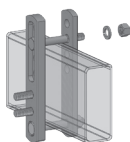

Figure 10
2. Insert the second $\frac{1}{2}$ " x $3\frac{1}{2}$ " bolt through the open hole closest to the top of the trailer frame. (Figure 10)